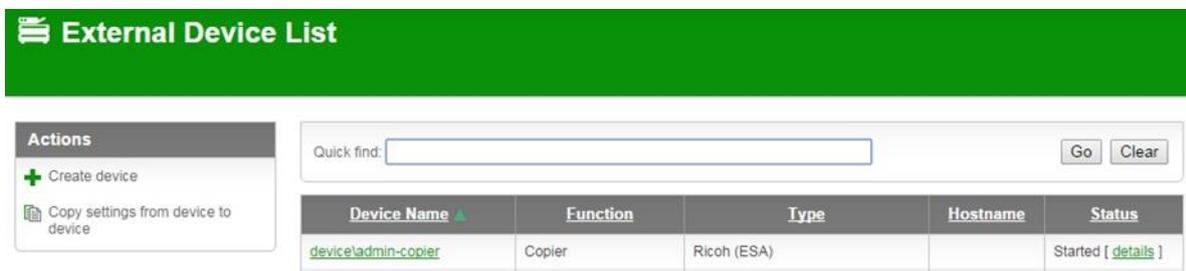

Figure 47: The MFD appearing in the PaperCut administration web interface.
- The MFD will appear in the PaperCut administration web interface under the **Devices** tab (see Figure 47) with the name you provided in the steps above. It will be created using the cost settings of the [Template printer].